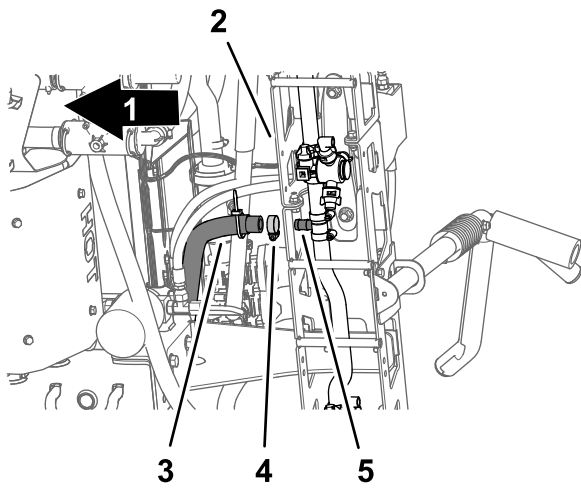

Figure 40
5. Under the center-spray section, remove the hose clamp that secures the supply hose for the center-spray section to the barbed T-fitting (Figure 40).